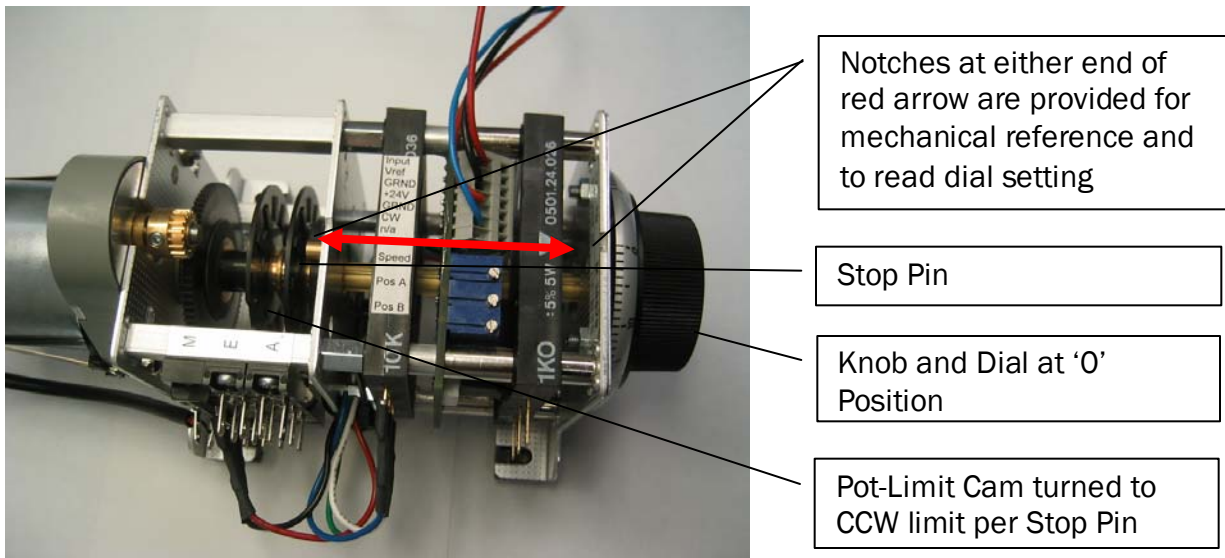

Figure 5. Photograph of Motor Pot Set to '0' Position.
- **Step 1** With power off, turn dial knob fully CCW until the mechanism reaches the Stop Pin limit (as shown in **Figure 5**. If dial reads '0', then skip to Step 3.
- **Step 2** Adjust outer dial (without turning knob) to read '0' (aligned with arrow and notch at top of motor pot assembly). Turn POS A trimpot fully CCW. Everything should then appear as shown in **Figure 5**.